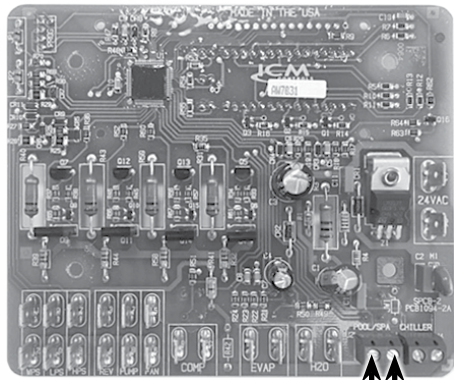

Fig. 6
4. Connect remote system with 2 wires to the POOL/SPA terminal on control board. **Figure 6** shows you where to connect the 2 wire remote systems to the temperature controller.